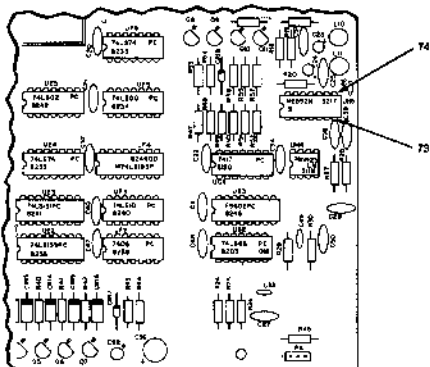
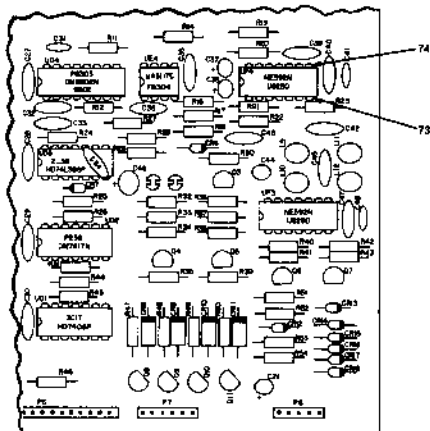

Fig. 3-8. Location of second video amplifier output pins, Model 1540.
Fig. 3-9. Location of second video amplifier output pins, Models 1541 and 1542.
6. Connect channel A of the dual-trace oscilloscope to pin 7 of the second video amp, and connect channel B to pin 8 of the second video amp. (See Fig. 3-8 for Model 1540 or Fig. 3-9 for Models 1541 and 1542.) Connect channel A at 73 and channel B at 74. Invert channel B and place the scope into A + B mode. Set the vertical sensitivity to 2V/cm and sweep time to 20 ms.